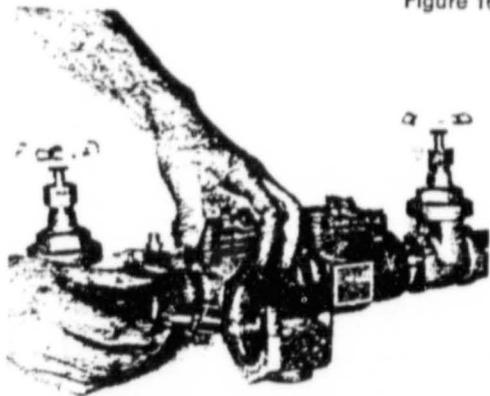

Figure 17
5. Firmly grasping the round flat metal plate, slowly pull complete assembly straight out of base casting. (It is very important that the two sets of guiding prongs do not scratch the seating surfaces.) Remove spring. (Figure 17.)